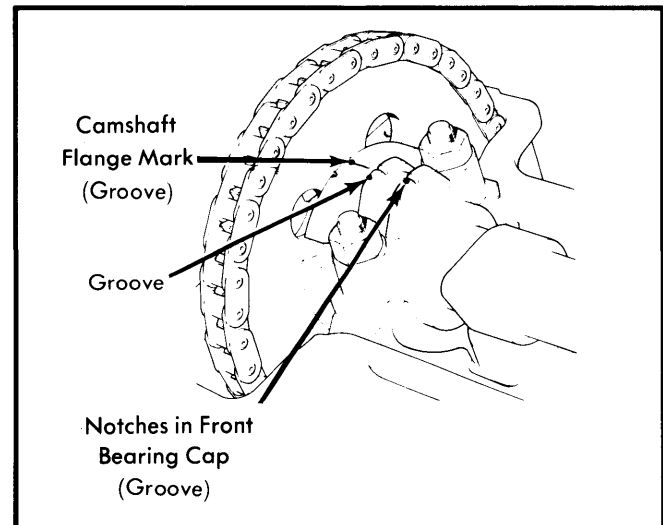

Fig. 3 Camshaft Timing Mark Alignment
1) Disconnect battery and remove fresh air duct, radiator, air conditioning condenser (if equipped), engine front cover, intake manifold, water pump cover and impeller, fuel pump, and camshaft cover. Crank engine so that timing mark on camshaft flange is in line with groove on front bearing cap. See Fig. 3. Remove distributor cap, and check that rotor points to last intake manifold bolt hole in cylinder head, indicating No. 1 piston is at TDC.
Crank engine until timing mark on crankshaft pulley coincides with zero mark on front cover scale. At this time, distributor rotor should point to rear bolt securing intake manifold to cylinder head and timing mark on camshaft flange is in line with groove in camshaft front bearing cap. To adjust timing it is necessary to remove timing chain. See Fig. 3.